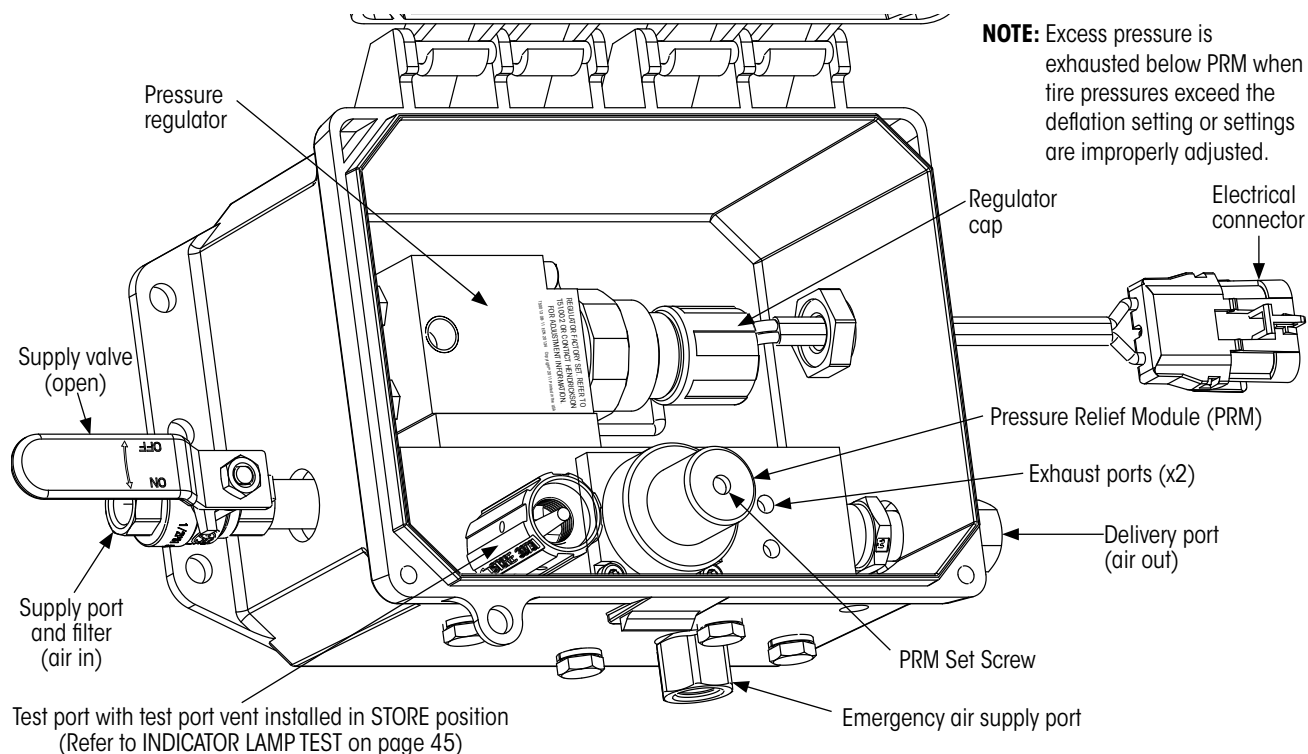

Figure 54: Setting TIREMAAX® PRO Inflation Pressure and Deflation Pressure
5. **Open** controller cover and **remove** test port vent, if included, Figure 54.
This adjustment is set at the controller regulator (Figure 54 on page 49).
This setting is performed at the controller's PRM (Figure 54 on page 49). For proper operation, Deflation Pressure must be set to 10 psi above Inflation Pressure.
7. **If adjustment is needed**, use 1/8 inch Allen wrench to **adjust** PRM set screw (Figure 54). (A quarter turn is approximately 5 psi.)
3. **Reinstall** the test port vent (Figure 54) in the store position.